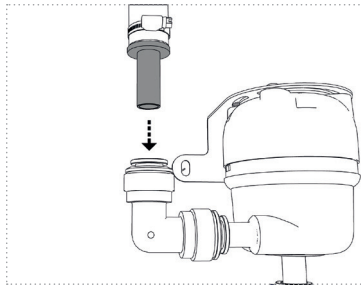
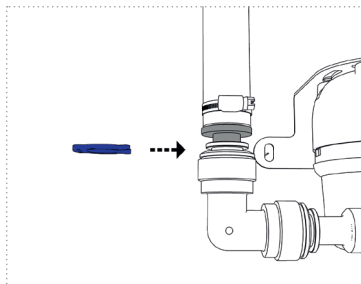

Figure 12a
Figure 13
5. Now guide the hoses directly into the water connections of the UV unit up to the stop (Figures 12a and 12b). In all cases, secure all push-in connections with the included „safety rings“ (Figure 13).